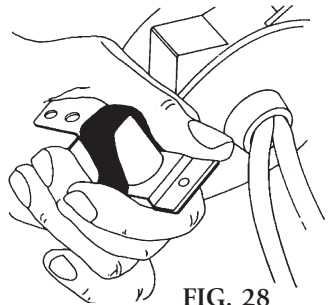

FIG. 28
2. **In Darkened State:** Cover end of cad cell with black tape and wrap assembly in heavy dark cloth (FIG. 28). Resistance after 15 seconds should be a minimum of 100 times the reading obtained in the lighted state (Above). (Use R x 10 or R x 1 K Scale).